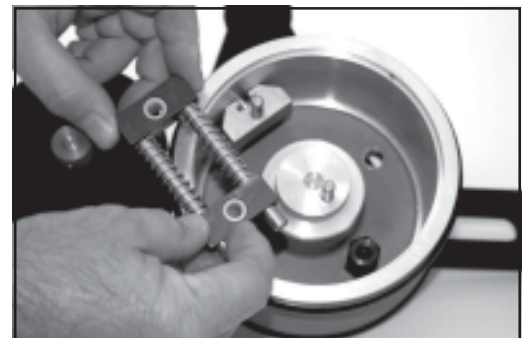

FIGURE 31
- 2- Using the toothbrush, carefully scrub the face of the die to remove the contamination and old ink as shown in Figure 31. Add more soapy water as necessary and repeat the process until the die is clean. Rinse the dies in clean water.